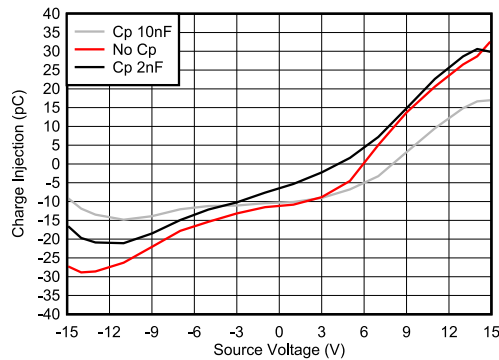

Figure 8-2. Charge Injection Compensation
The TMUX620x contain specialized architecture to reduce charge injection on the Drain (D). To further reduce charge injection in a sensitive application, a compensation capacitor ( $C_p$ ) can be added on the Source (Sx). This will ensure that excess charge from the switch transition will be pushed into the compensation capacitor on the Source (Sx) instead of the Drain (D). As a general rule of thumb,  $C_p$  should be 20x larger than the equivalent load capacitance on the Drain (D). Figure 8-2 shows charge injection variation with different compensation capacitors on the Source side. This plot was captured on the TMUX6219 as part of the TMUX62xx family with a 100pF load capacitance.